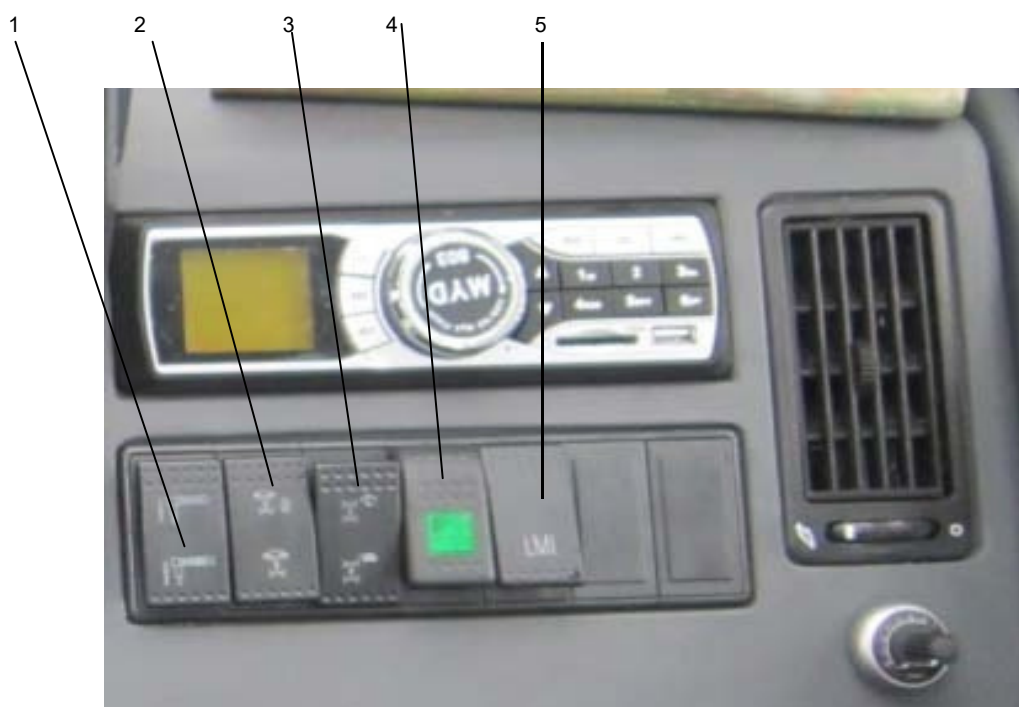

Figure 06 – 3 Right Dash
11. **CAB HEATER POWER SWITCH** – Used to turn on the cab heater. The controls to adjust heat are on the **AIR CONDITIONER CONTROL PANEL (5)** (See Figure 06 – 1).
1. **OUTRIGGER EXTEND / RETRACT MASTER SWITCH** – Used with switches (12, 13, 15, 16 in Figure 06 – 1) to extend and retract the outrigger beams and jacks. Push down to retract, up to extend.